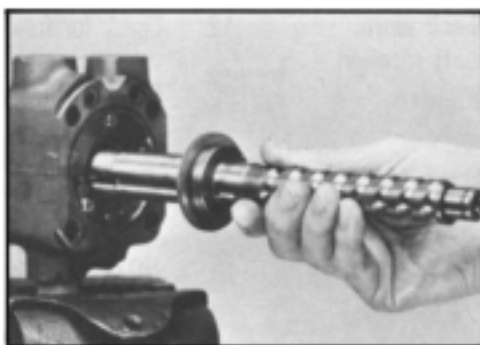

Figure 107
8. Assemble the input (serrated) end of the worm shaft (23) with bearing package into the adaptor end of the valve spool (15B) bore as described in procedure #4, until shaft and bearing assembly stops against the spool. SEE FIGURE 107.